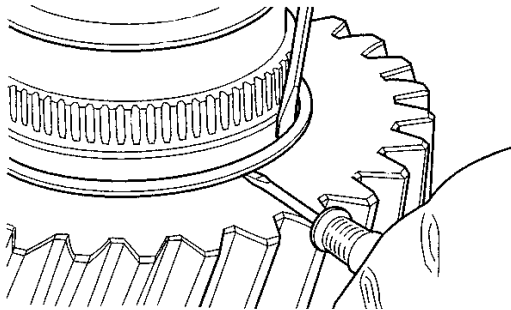

Figure 9 Remove Snap Ring
14. Remove the spiral snap ring that retains the small helical gear on the input shaft (Figure 9) and replace it with the snap ring supplied in the kit. Ensure that the snap ring is fully seated in the snap ring groove.